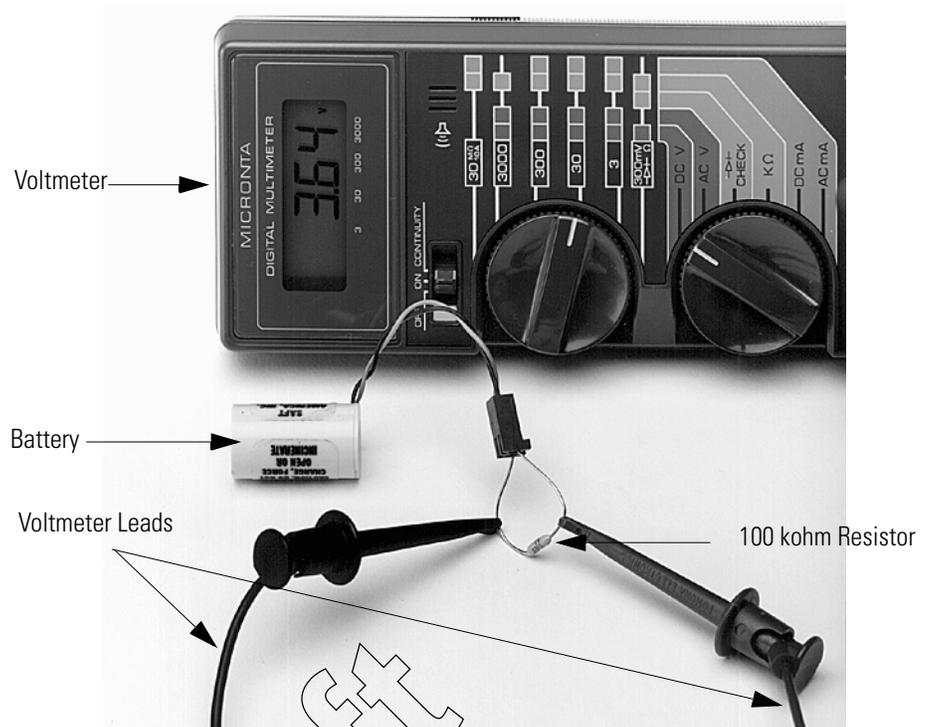

Figure 2.2 Testing Battery with Voltmeter
- 3 Use a standard voltmeter to measure battery voltage. Place a 100 kilo-ohm, 1/4 watt resistor in series with the battery, as shown in Figure 2.2, by inserting the resistor leads into the two-pin connector.